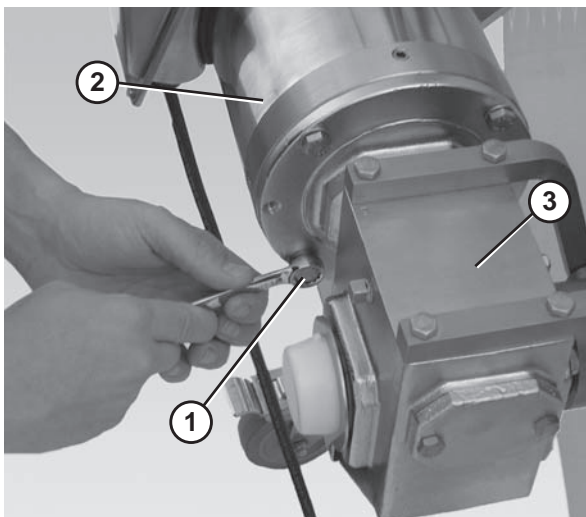

**Figure 27**
2. Refer to the wiring diagram (**Figure 27, item 1**) on the inside of the junction box cover.